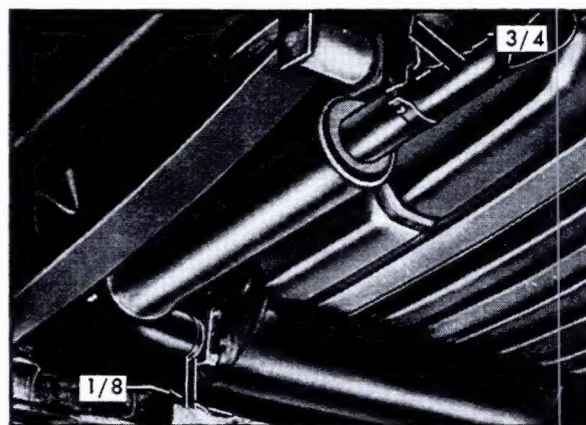

Fig. 8-10 Eldorado Resonator
3. Position resonator outlet hanger on blade and secure hanger to body with screws, Fig. 8-10.
4. Position clamp on joint of resonator inlet and muffler outlet with saddle of clamp 1/8 inch from end of muffler outlet, Fig. 8-10.
7. Position resonator hanger blade in its slot and secure hanger to body with screws, Fig. 8-10.
8. Install muffler to resonator clamp at muffler, Fig. 8-10.
4. Make certain that resonator is horizontal and that it has a minimum of 3/4 inch clearance from fuel tank and 7/8 inch clearance from rear leaf spring. The resonator outlet hanger blade should be centered from side to side and horizontal in rubber slot of support hanger. It must not bind when system expands. A small amount of silicone lubricant should be in rubber slot of hanger. Blade of hanger should stick out 3/4 inch from bracket, Fig. 8-10.